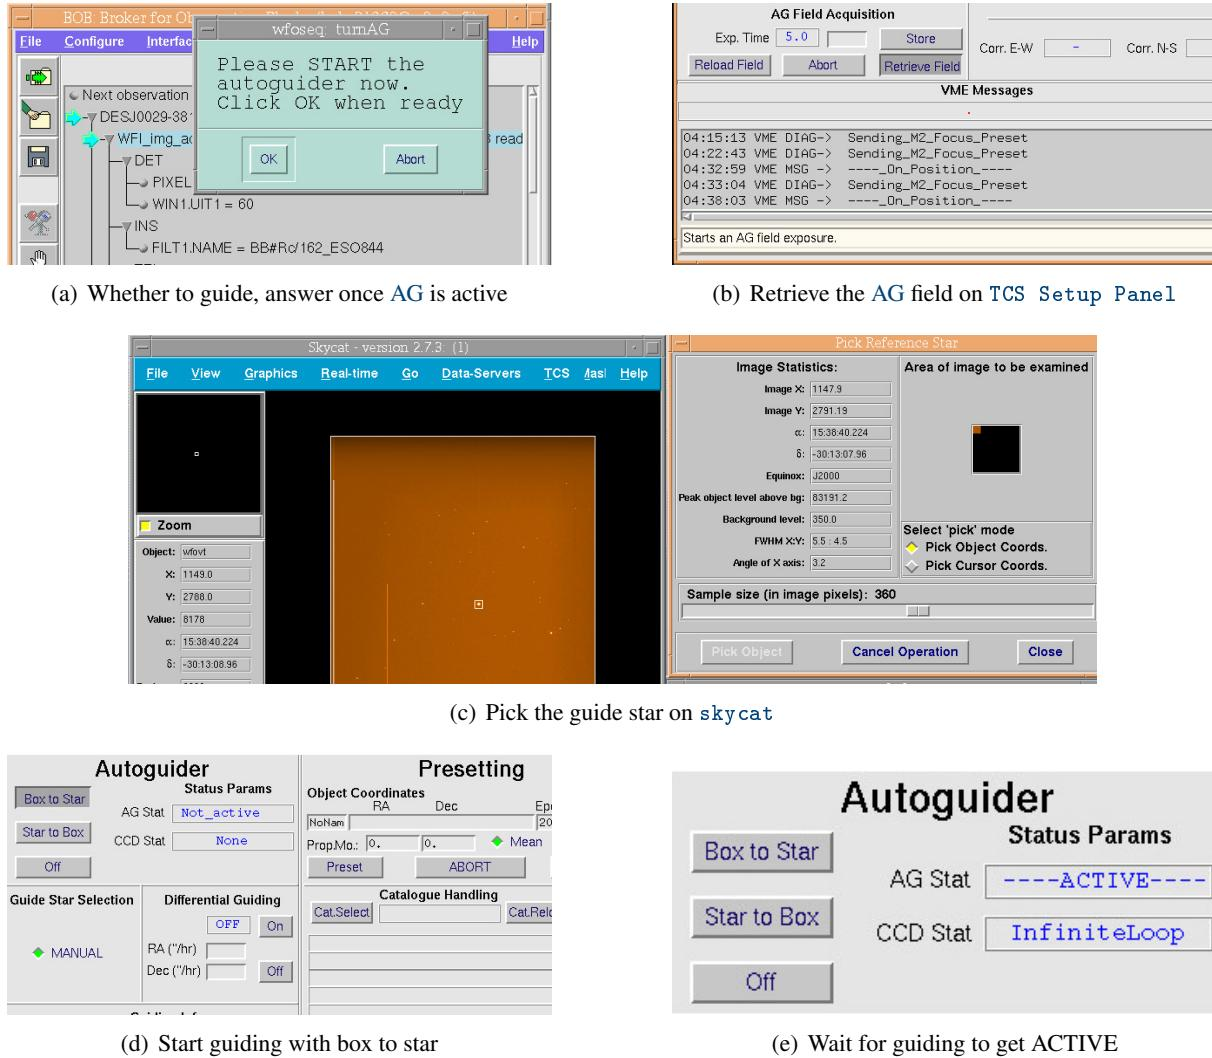

Figure 6.2: Setting the WFI AG for targets outside the solar system
A graphical outline of the procedure is given in Fig. 6.2, p. 58 in the case no differential guiding (for solar
- A. On the **TCS** workstation, acquire the guide field (Fig. 6.2(b), p. 58)
- C. On the autoguider windows (Fig. 11.3, p. 107), choose the guide star (Fig. 6.2(c), p. 58)
- D1. Activate the guiding (Fig. 6.2(d), p. 58)
- D2. Wait for guiding to start (Fig. 6.2(e), p. 58)
- E. Proceed with the observation, typically by clicking on pop-up asking for guiding (Fig. 6.2(a), p. 58)
- E. Proceed with the observation, typically by clicking on pop-up asking for guiding (Fig. 6.2(a), p. 58).